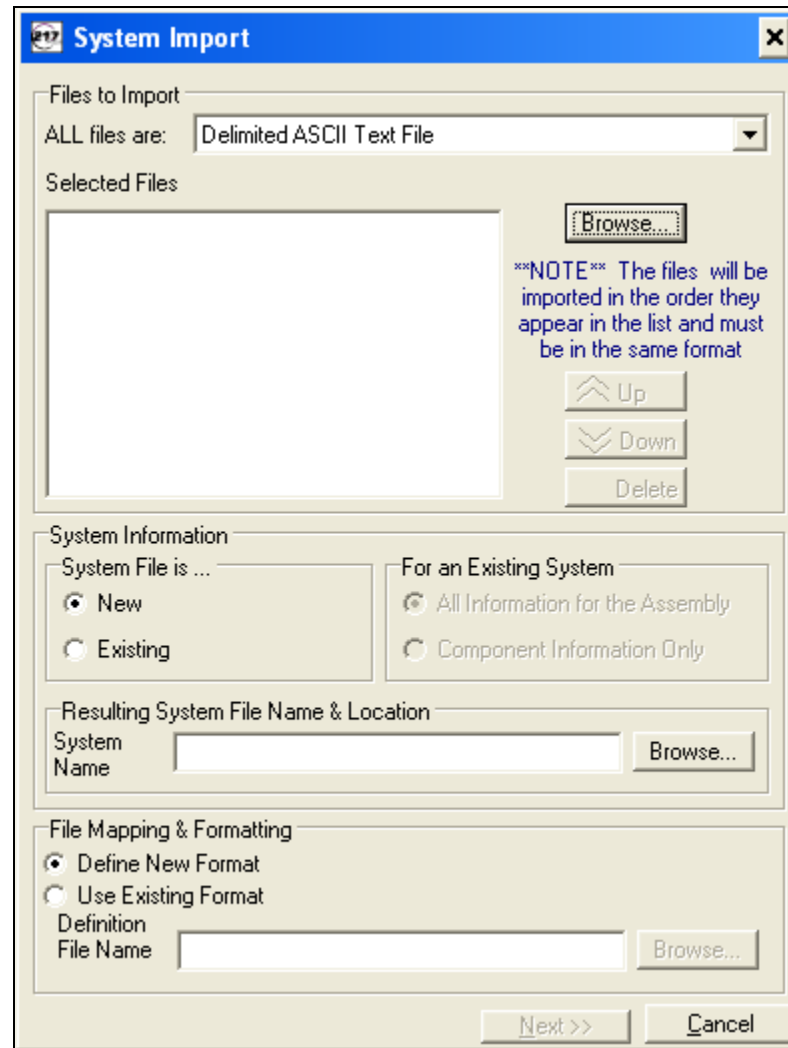

Figure 11. Select File Format Type
22. In the **System Import** dialog box, at the **ALL files are:** drop-down, select “**Delimited ASCII Text File**” (Figure 11)